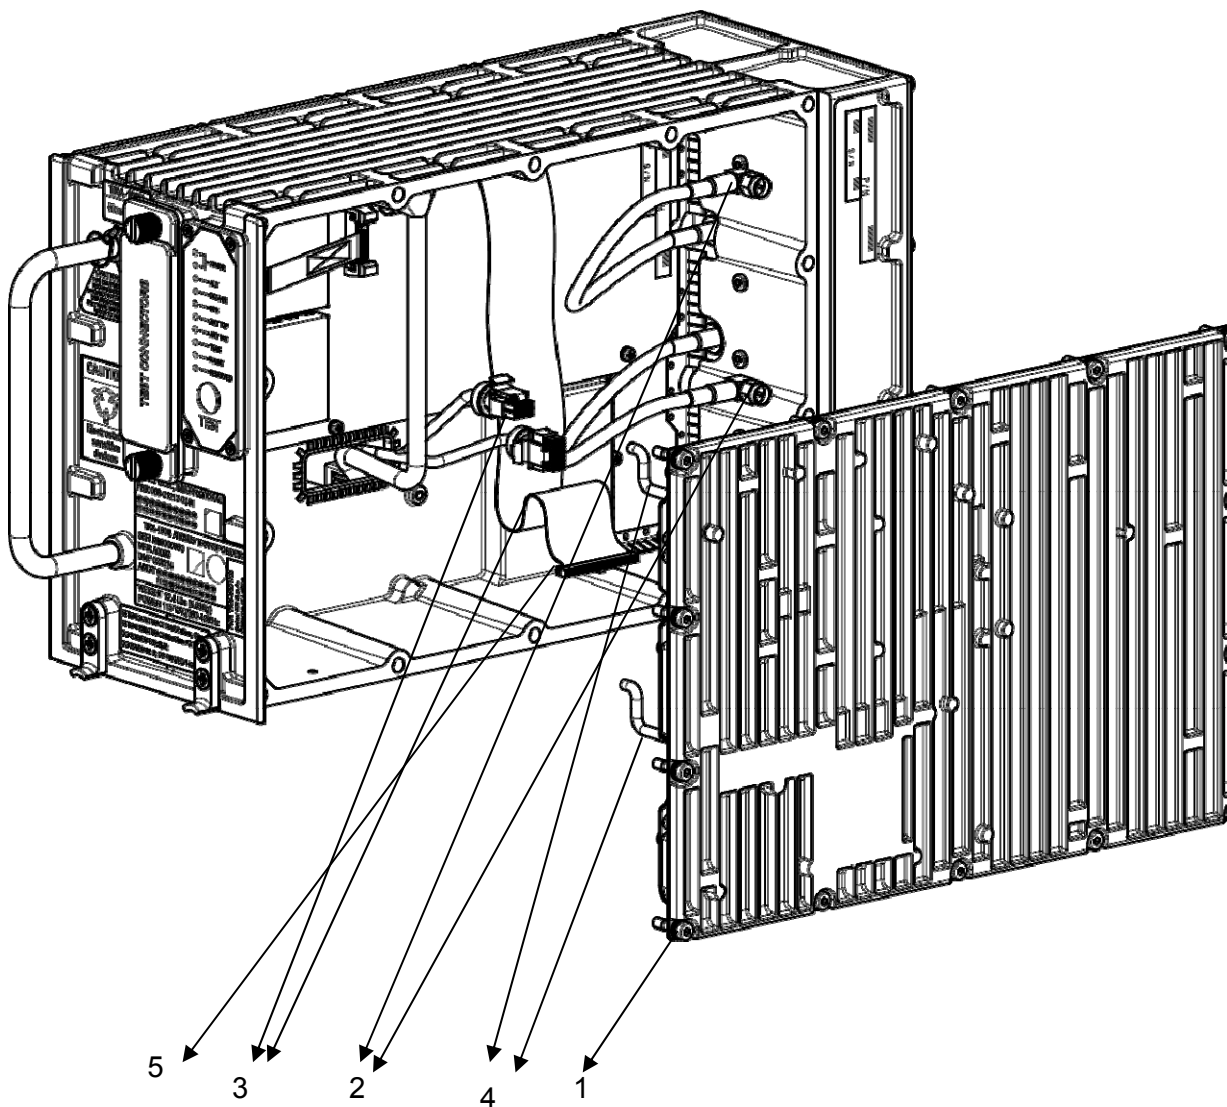
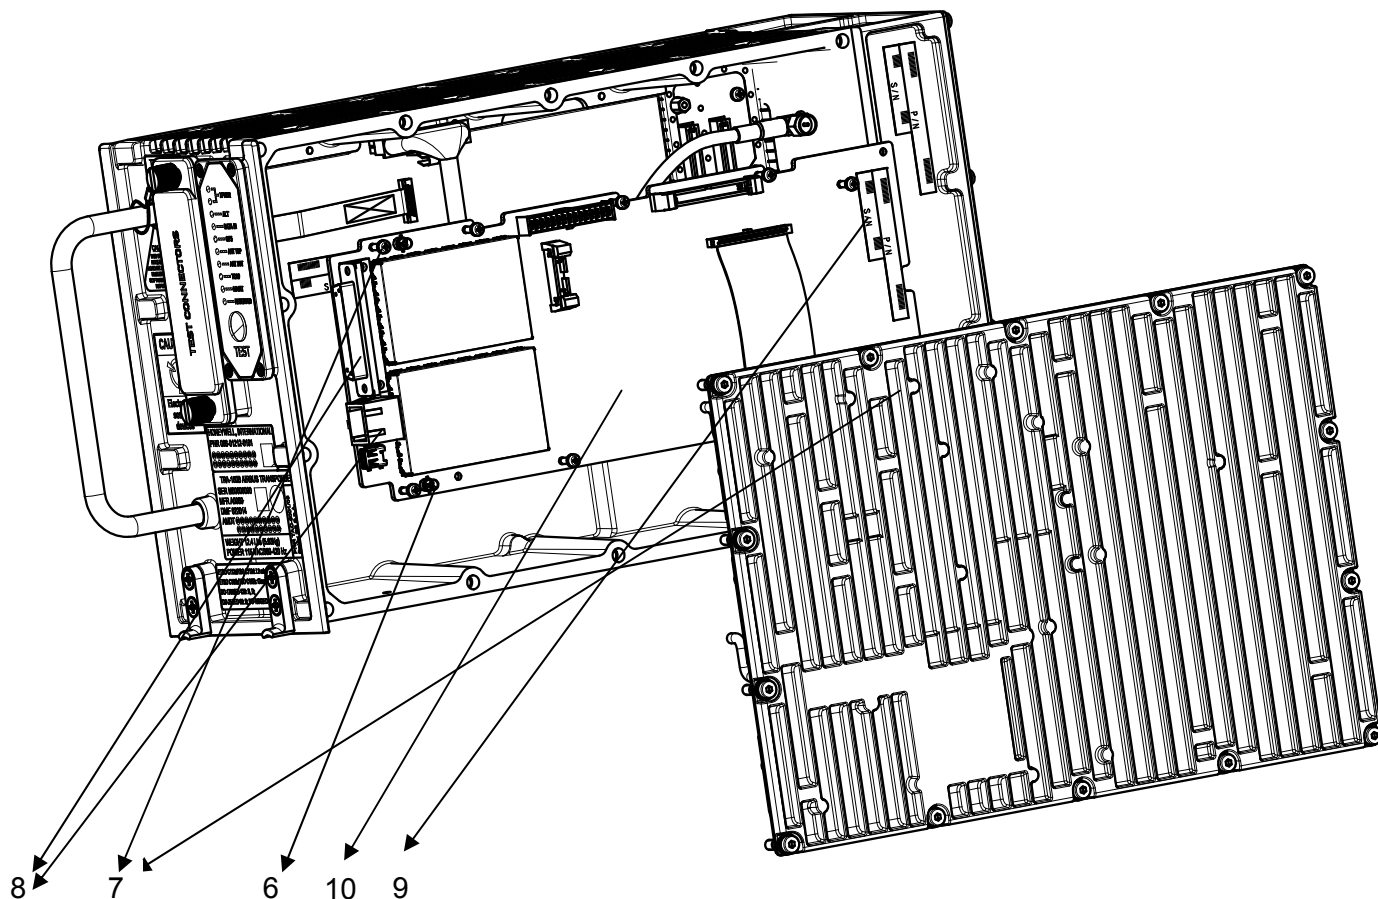
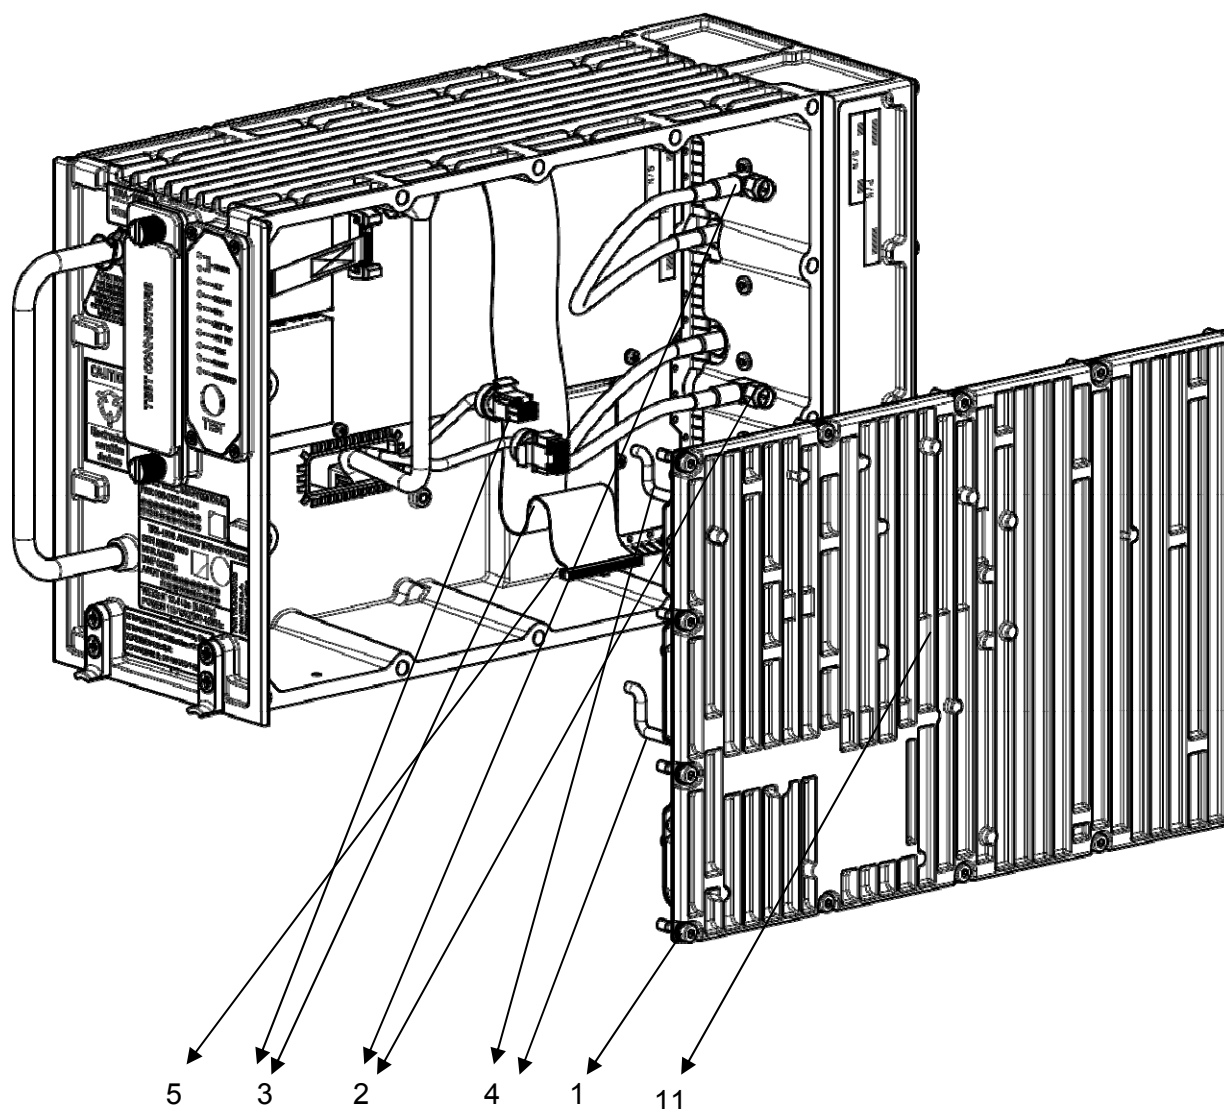

Figure 8-1 – TRA-100B, Data Processor and I/O – Replace procedure
Figure 8-2 – TRA-100B, Data Processor and I/O – Replace procedure (position)
Figure 8-3 –TRA-100B, RF Subassembly – Replace procedure
- 1.1) Removal Transponder cover (right side) unscrewing the related M2,5 fourteen crosshead screws using a torque screwdriver bit holder and appropriate bit (1). (Figure 8-1, Figure 8-2)
- 2.1) Install Data Processor and I/O Module. (Figure 8-1, Figure 8-2)
- 1.1) Follow the procedure to remove the Data Processor and I/O module (Para. 8.4.1). (Figure 8-3, Figure 8-2)
- 2.1) Install the RF Subassembly. (Figure 8-3, Figure 8-2)
- 1.1. Removal Data Processor and I/O module and RF Sub Assembly module following the procedures described in Figure 8-1, Figure 8-2 and Figure 8-3.
- 2.1. Install Data Processor and I/O module and RF Sub Assembly module following the procedures described in Figure 8-1, Figure 8-2 and Figure 8-3.